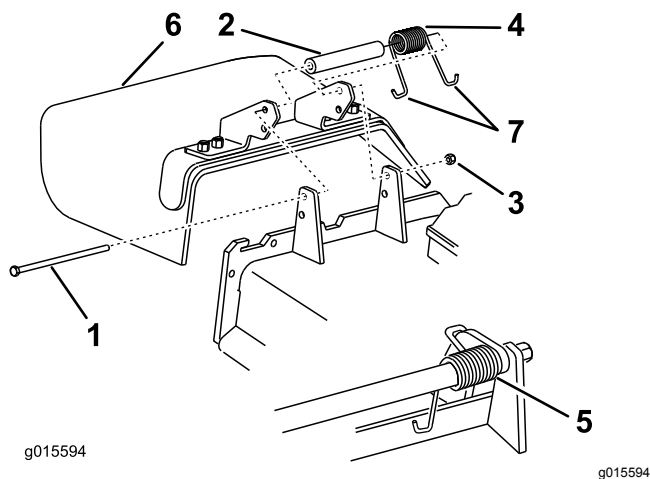

Figure 122
1. Remove the locknut, bolt, spring, and spacer holding the deflector to the pivot brackets (Figure 122).
2. Remove the damaged or worn grass deflector (Figure 122).
Note: Make sure that 1 J-hook end of the spring is installed behind the deck edge before installing the bolt as shown in Figure 122.
- Place 1 J-hook end of the spring around the grass deflector (Figure 122).